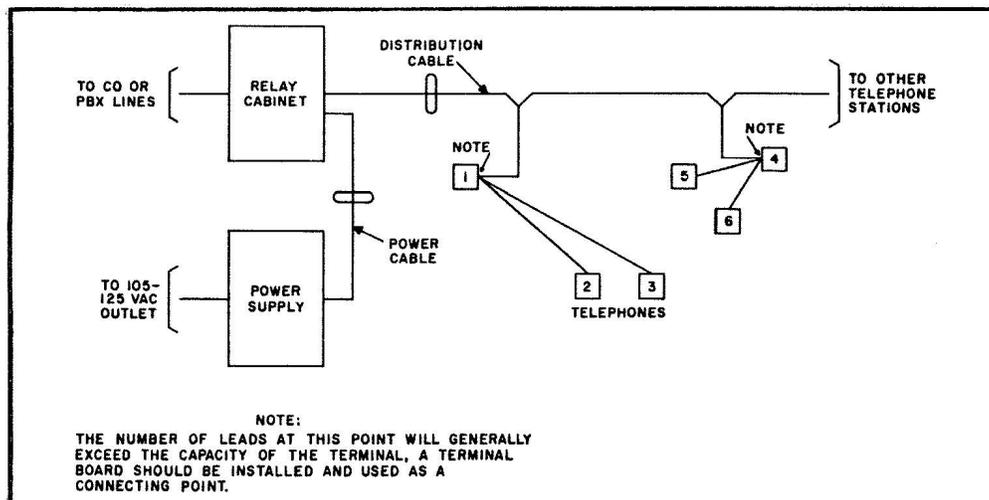

Figure 13. Typical Multiple-Radial Cabling System
- Figure 13. Typical Multiple-Radial Cabling Plan
If several stations are grouped together at one location and several others at different locations, the multiple-radial cabling plan should be used. Several telephones can be connected in multiple and radial feeder cables run from these telephones to telephones in the immediate area. See figure 13.